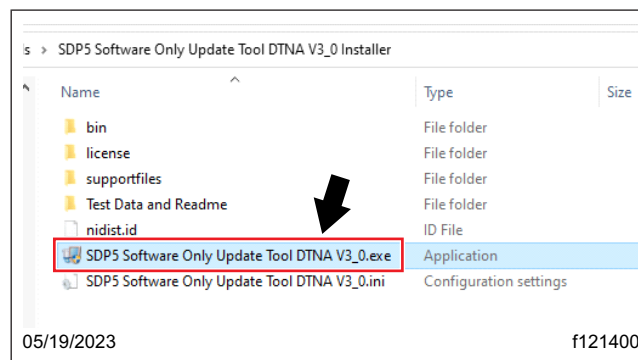

Fig. 7, Selecting and Running the Setup File
9. The extracted contents are shown in a new window. Double-click to run the 'SDP5 Software Only Update Tool DTNA V3.0.exe' application file. See Fig. 7.